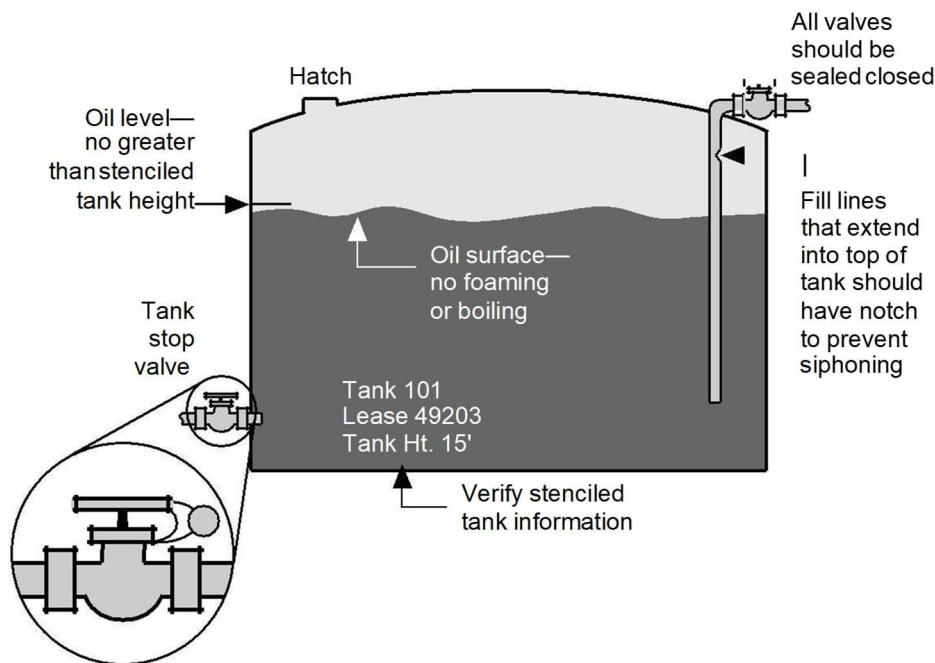

Figure 3.1. Checking the tank before gauging
1. Before taking the opening gauge, inspect the tank (see Figure 3.1):